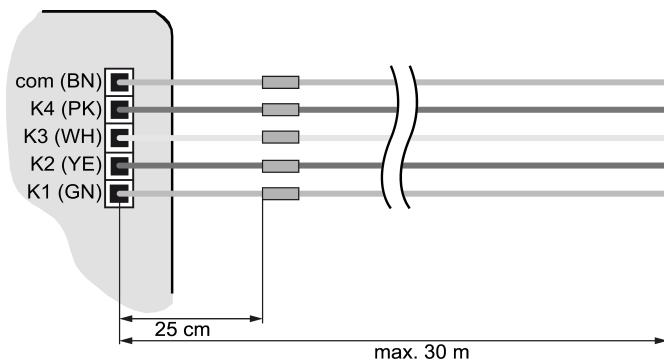

Figure 2: Maximum cable length
**i** For the extension of the enclosed cable set (see figure 2), observe the maximum cable length (see chapter "Technical data" ▶ Page 10). The following applies: the com cable for each cable set may not have a total length beyond 30 m in length.